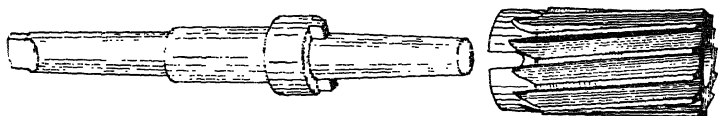

FIG. 134.—Shell-reamer arbor and shell reamer with spiral teeth.
**144. Shell Reamers.**—For reasons of economy, many manufacturers prefer the shell reamers and arbors illustrated in Fig. 134. These reamers are made in either rose-reamer style or fluted-reamer style and the arbors with either straight or taper shanks, and differ in no particular respect from the